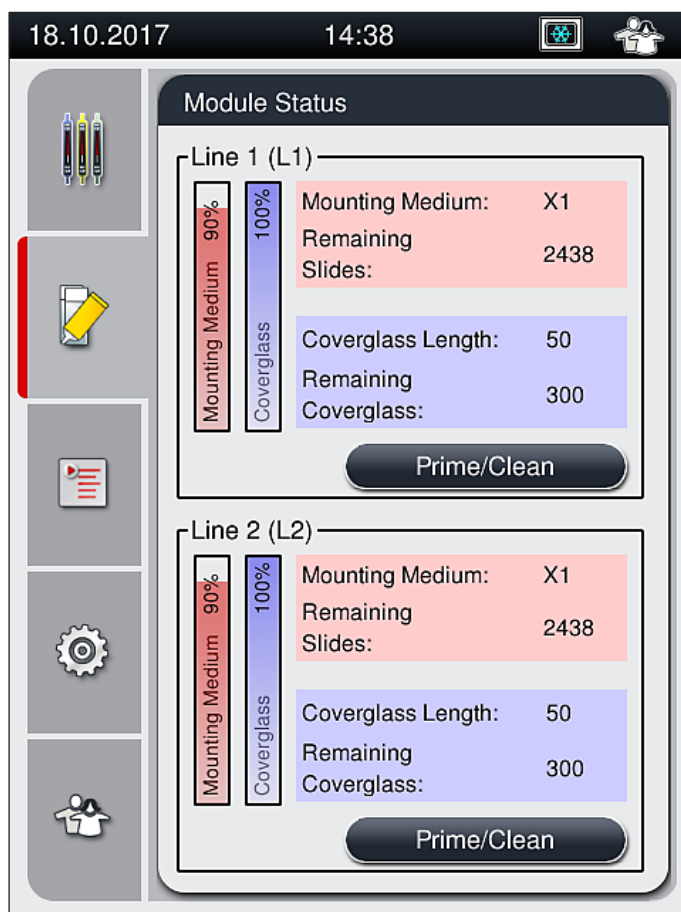

Fig. 54
- The mounting medium bottles that are reinserted are detected by the instrument software and the **Module Status** (→ Fig. 54) is updated.